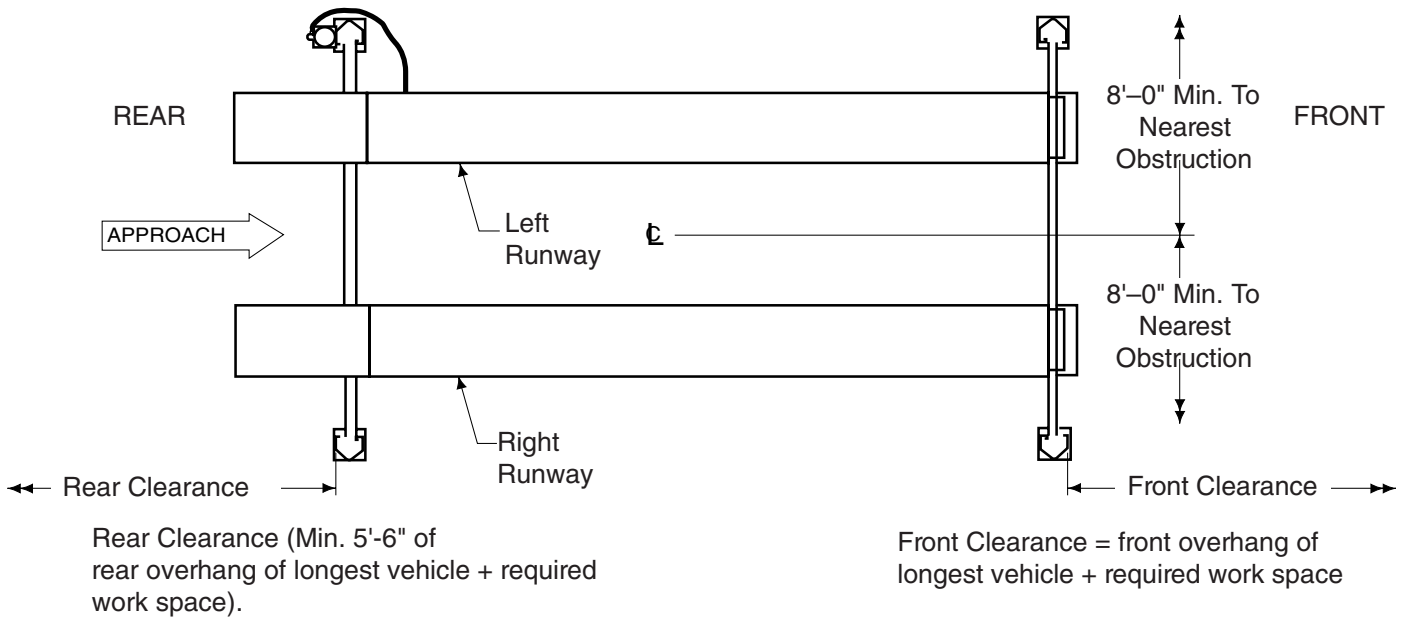
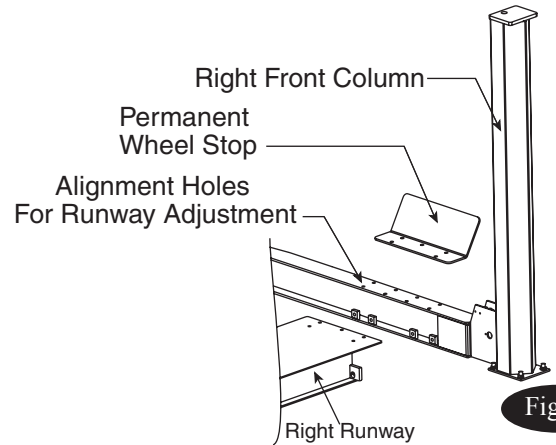
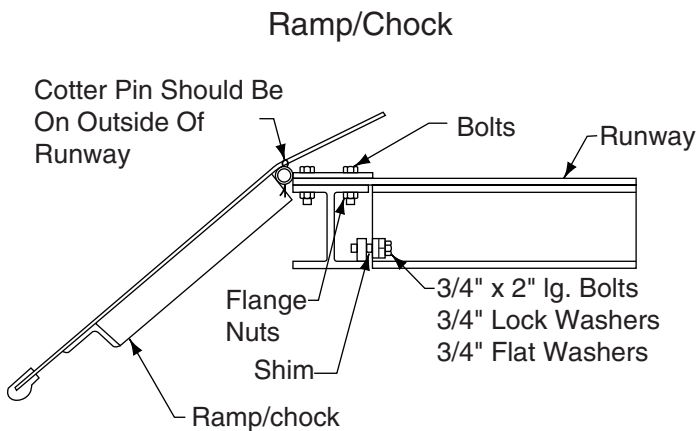
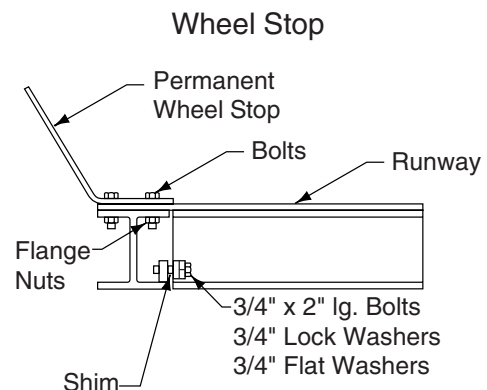

Fig. 1
Fig. 4
Fig. 5
Fig. 6
1. Lift Location: Use architects plan when available to locate lift. Fig. 1 shows dimensions of a typical bay layout. For power unit at right front, rotate lift 180°, leaving ramp/chocks and wheel stops in original position. Lift floor area should be level.
- C. Position front and rear yokes at respective ends of runway, Fig. 1. Feed cable ends through yoke end, Fig. 4. Do not assemble sheaves in yoke ends at this time.
- D. Lay right runway in place on yoke. Slide right runway toward outside of lift until holes in yoke and runway line up, Fig. 4. Hold runway in place and bolt on ramp/chock and wheel stops to runway using ten $\frac{5}{8}$ " x 2 $\frac{1}{2}$ " bolts and flange nuts. Square up yokes with runways using four $\frac{3}{4}$ "-10NC x 2" lg. bolts, $\frac{3}{4}$ " flat washers, $\frac{3}{4}$ " lock washers, and shims. Ramp/chocks go on rear, Fig. 5. Fig. 6. Repeat for left runway.
- Keep columns square to center line of lift. Check lift location in the bay, Fig. 1. Check dimensions side-to-side, front-to-rear, and diagonally. Diagonals must be equal to within $\frac{1}{4}$ ", Fig. 9. for each column.